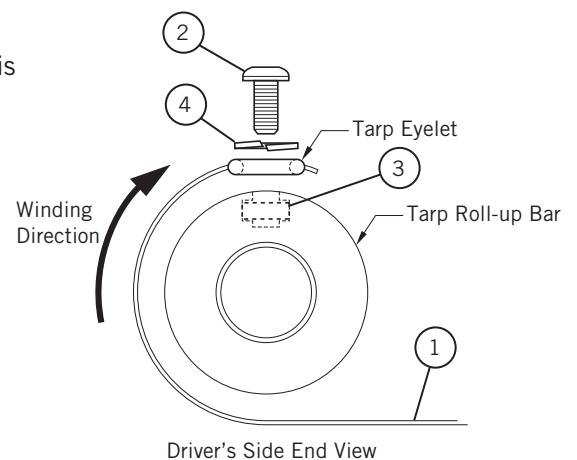

Figure 12
- 1) See Figure 12. Pull the loose end of the tarp (1) under the roll up bar, winding from the underside. Make sure the tarp is centered from side to side.
- 3) Secure tarp (1) with 1/4-20 pan head Phillips (2), 1/4-20 square nuts (3), and 1/4 split lock washers (4).